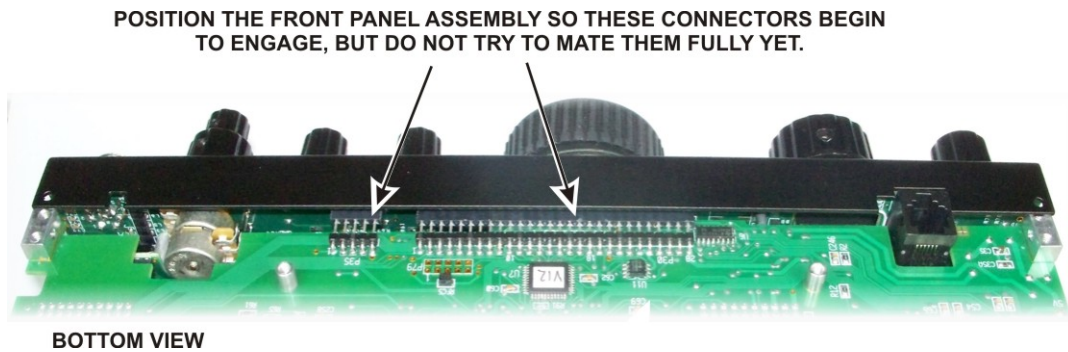

Figure 15. Mounting the Front Panel Assembly- Mating P30 and P35.
- Turn the chassis upside down and position the front panel so the pins of P30 and P35 on the bottom of the RF board just begin to engage the connectors on the lower edge of the front panel assembly as shown in Figure 15). Do not fully mate them yet.